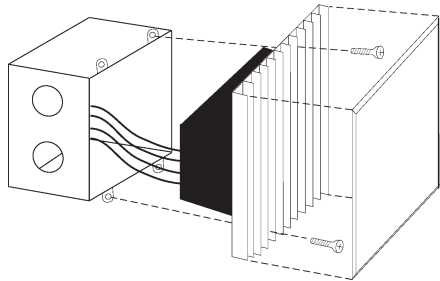

Figure 2. Mounting Diagram
Turn off power to the control unit and the feed to the Interface. Mount backbox. Strip 12 mm insulation from the backbox wires: 2.5 mm2 75°C copper (CU). Connect as shown in Figure 1. Mount as shown in Figure 2.